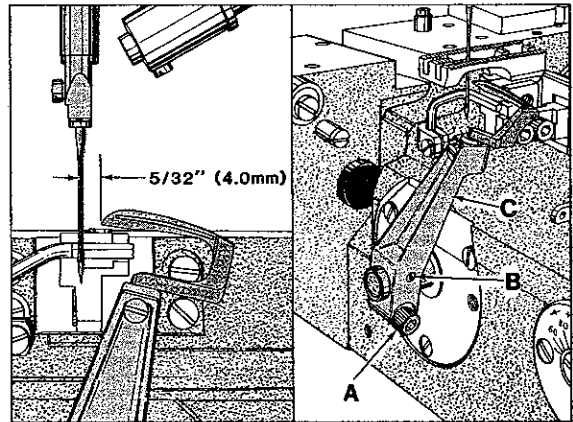

Fig. 7
Insert a new needle, type and size specified. With looper positioned at extreme right end of travel, distance from centerline of needle to point of looper should be  $5/32$  inch (4.0mm). Adjustment can be made by loosening screw (A, Fig. 7) and turn screw (B) clockwise to increase looper gauge or counterclockwise to decrease. Push looper holder (C) to the left while making this adjustment and locking with screw (A).